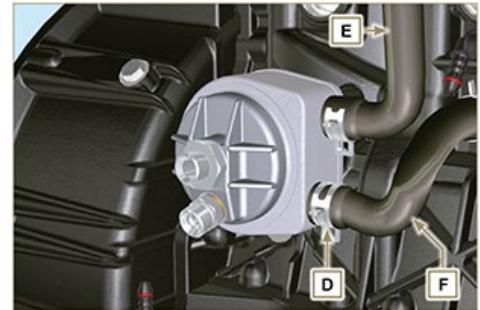
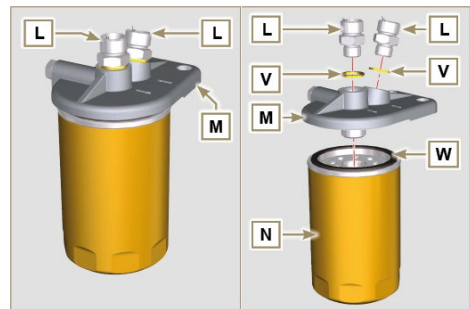

Fig 11.37
Fig 11.38
with a tool the fittings **K, H (Fig. 11.37) and L (Fig. 11.38)** in order to prevent their lose together with the nuts **A**, with the consequent of oil leakage.
- Check the tightening of the fittings **K**, **H** (**Fig. 11.37**) and **L** (**Fig. 11.38**) (tightening torque at **40 Nm**).